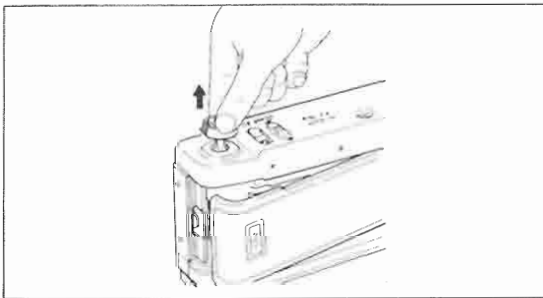

Fig. 20
- (1) Pull up the film rewind knob until the camera back pops open. (Fig. 20)